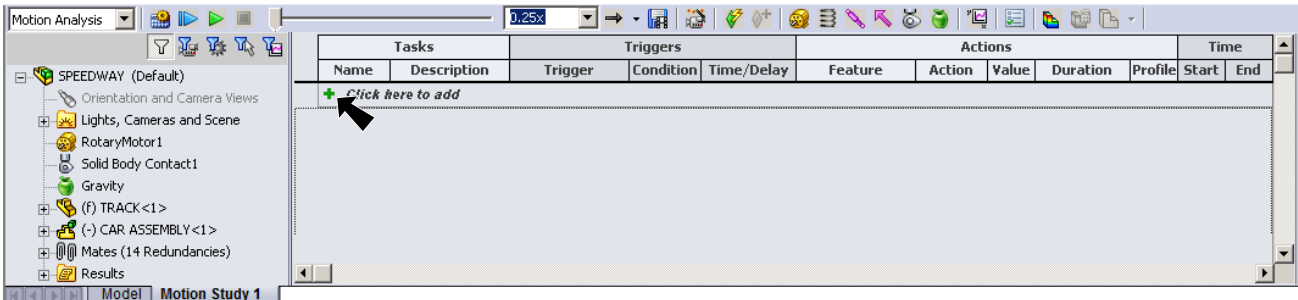

Fig. 18
Step 2. In the Event-based Motion Study, click **+ Click here to add**, **Fig. 18.**